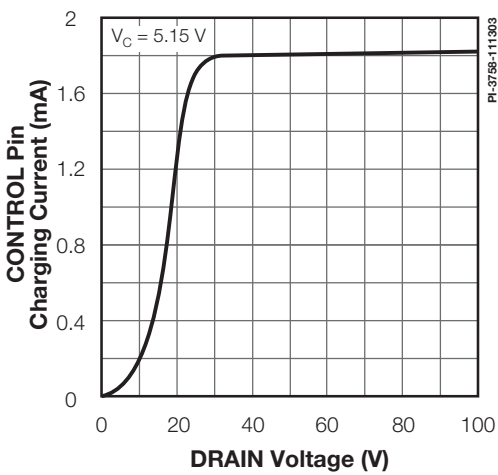

Figure 16. I_c vs. DRAIN Voltage.
- It is possible to start up and operate LinkSwitch at DRAIN voltages well below 36 V. However, the CONTROL pin charging current is reduced, which affects start-up time, auto-restart frequency, and auto-restart duty cycle. Refer to the characteristic graph on CONTROL pin charge current (I_C) vs. DRAIN voltage (Figure 16) for low voltage operation characteristics.